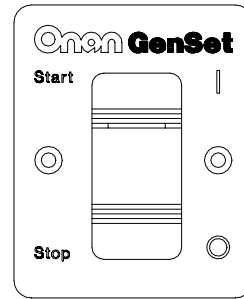

FIGURE 13. REMOTE CONTROL
- Remote start/stop switch with status indicator light only (Figure 13).